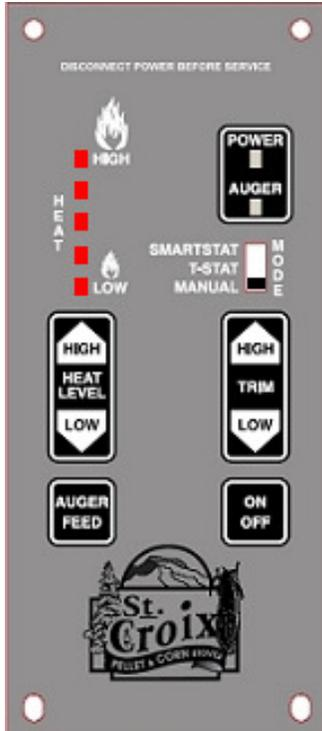

Figure 19
- 3 - **Program 3.** The Cycle Time is 11.5 seconds. **THIS PROGRAM IS THE DEFAULT PROGRAM FOR USE WITH THE ASHBY-P.** This program is for use with **Pellets, Cherry Pits and a 50/50 Percent Mixture of Pellets and Corn (See fig. 19 on page 33).** **(DO NOT USE THIS PROGRAM WITH THE ASHBY-MF).**
- 4 - **Program 4.** The Cycle Time is 10 seconds. **This Program offers Self-Ignition and is only for units that have the Versa Grate system & Igniter installed.** This program is for use with **Cherry Pits. (See fig. 19 on page 33).** **(DO NOT USE THIS PROGRAM WITH THE ASHBY-MF).**
To change the Program the Insert must be in the OFF position, the unit must be completely cooled down so the Proof of Fire Switch is Open and the Thermostat slide switch must be in the Manual mode. (See figure 19)
2. Push the On/Off button on the control board. (See figure 19 on page 34)